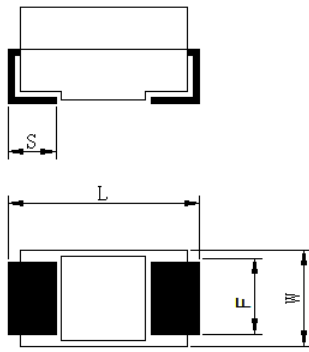
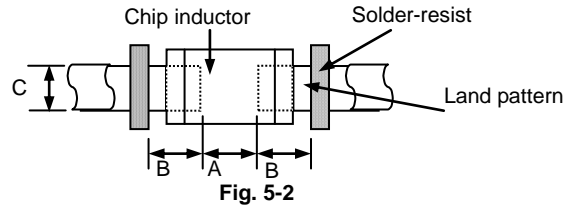

Fig.5-1
Fig. 5-2
- 1) Dimensions and recommended PCB pattern for reflow soldering: See Fig.5-1, Fig.5-2 and Table 5-1